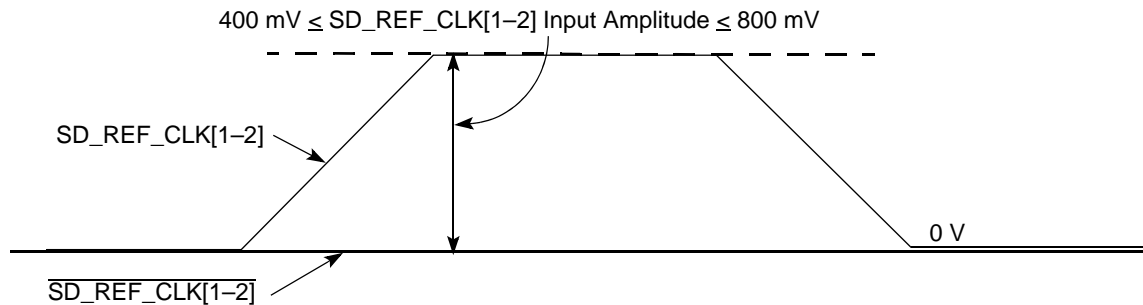

Figure 8. Single-Ended Reference Clock Input DC Requirements
- The $SD_REF_CLK[1-2]$ input average voltage must be between 200 and 400 mV. Figure 8 shows the SerDes reference clock input requirement for single-ended signaling mode.